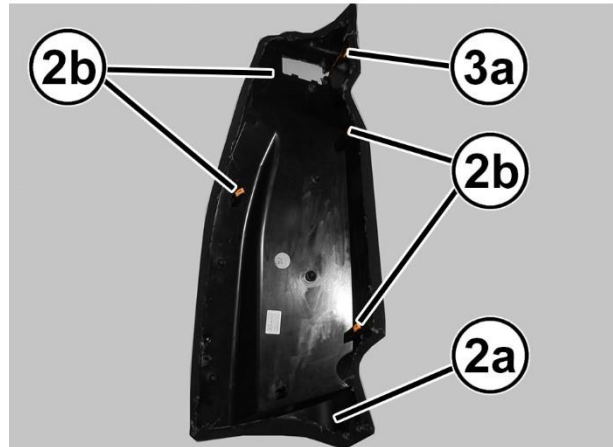

Figure 2 – Rear Seat Bolster
5. Remove the seat belt bezel (1a) by releasing its retainers (1b) then guide the seat belt (1c) out through the slot (1d) (Figure 2).
6. Release the retainers (2b) of the rear seat bolster (2a) (Figure 2).
7. Remove the rear seat bolster (2a) by guiding the seat belt (1c) out through the slot (3a) (Figure 2).